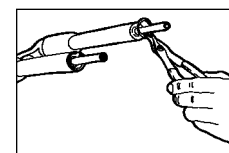

Fig. 7
2. Remove the snap rings at the bottom of the upper tubes with small tip internal snap ring pliers (see Fig. 7).